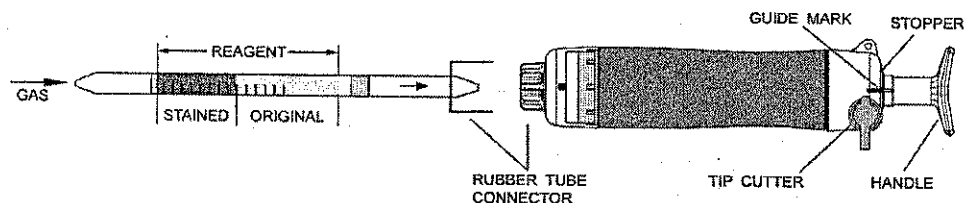

Fig.1
- ② Insert the detector tube into the aspirating pump securely as shown in Fig.1. (Arrow mark shall point to the pump.)
- ③ Align the guide marks on the shaft and stopper of the aspirating pump.
- ④ Pull the pump handle at a full stroke until it locks and wait for 2 minutes or until the completion of sampling is confirmed with the flow indicator of the pump (See descriptions about the flow indicator in the instruction manual of the pump).
- ⑤ On completion of sampling, read the scale at the maximum point of the stained layer.
- ① Temperature; Correct the tube reading by following temperature correction table at less than 20 °C.